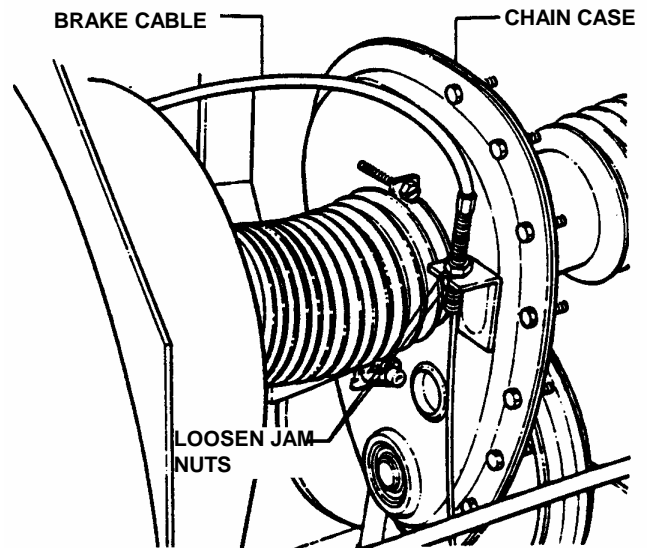

FIGURE 4.10
6. If measurement is not $3/4$ ", loosen the two jam-nuts (shown in Figure 4.10) holding the clutch/brake cable to the chain case bracket.
5. Move transmission shift lever to the neutral (N) position.
6. Rotate clutch yoke (clutch yoke shown in Figure 4.10) out with your hand and work belt between drive disc and rubber driven disc.